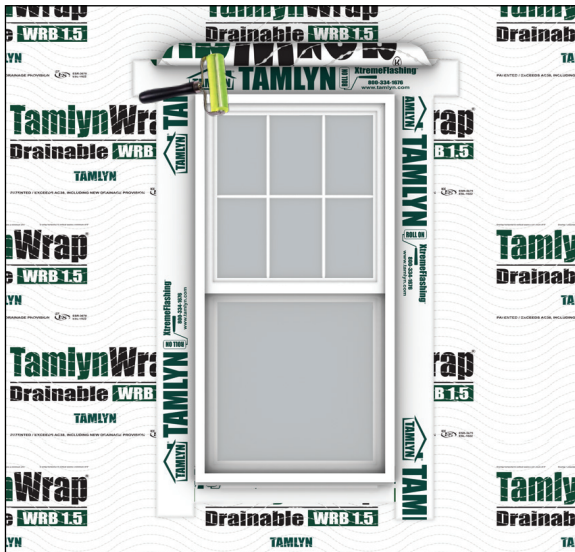

FIG 9:
- Adhere **XtremeFlashing™ Tape** to the head flange and to the sheathing. Head flashing must extend beyond jamb flashing on either side. Jamb flashing should not extend above the head flashing. **(FIG 9)**.